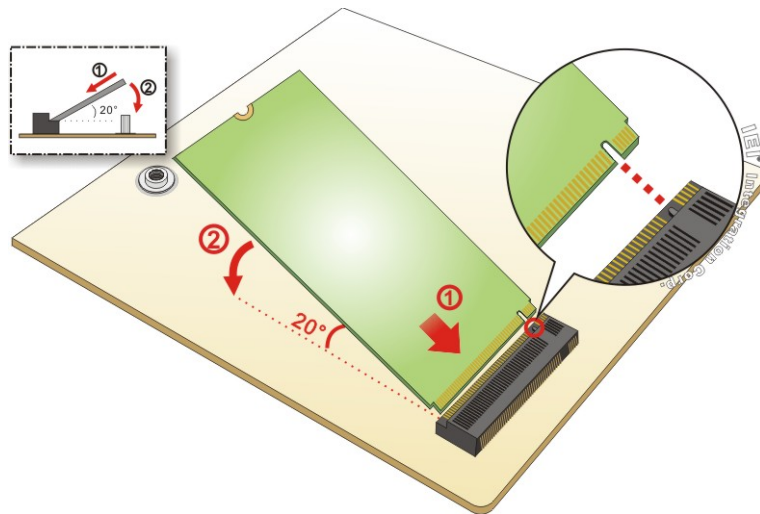

Figure 3-11: Inserting the M.2 Module into the Slot at an Angle
Step 4: Line up the notch on the module with the notch on the slot. Slide the M.2 module into the socket at an angle of about 20° (**Figure 3-11**).